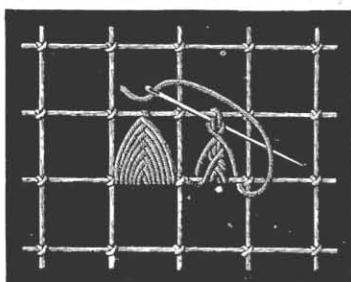

Fig. 29. Veined scallops.
**Veined scallops** (fig. 29). — A third way of making scallops is to stretch a thread to and fro in the middle of a